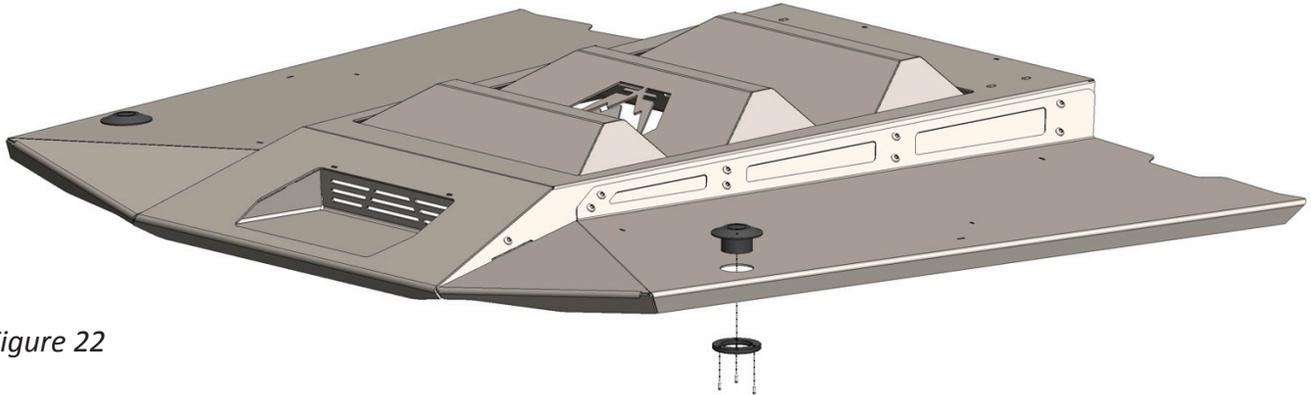

Figure 22
19. Install the hood latches from the 61826 kit into the hood and use the set screws to fasten them in place. Figure 22.